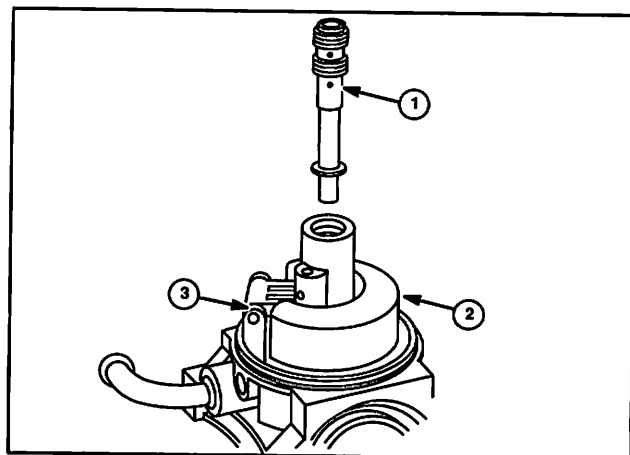

Fig. 116
1. Install emulsion tube (1) using Tool #19280, Carburetor Screwdriver, until emulsion tube seats, Fig. 116. Float (2), hinge pin (3), Fig. 116.